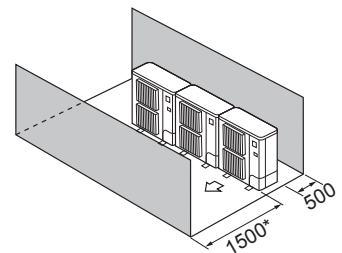

Fig. 5-12
- ④ Obstacles at front and rear only (Fig. 5-12)